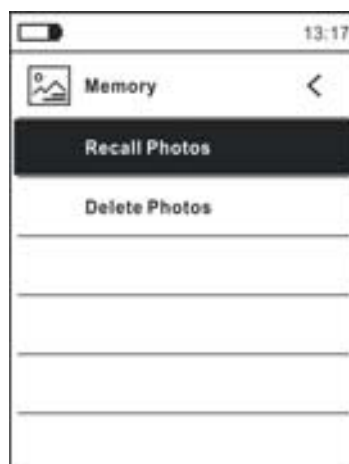

Fig. 17: Menu Memory
31. Use the arrow keys ▲ or ▼ and keys ≡ or ► to select option “Delete Photos” (see Fig. 17). The following screen appears on the display: